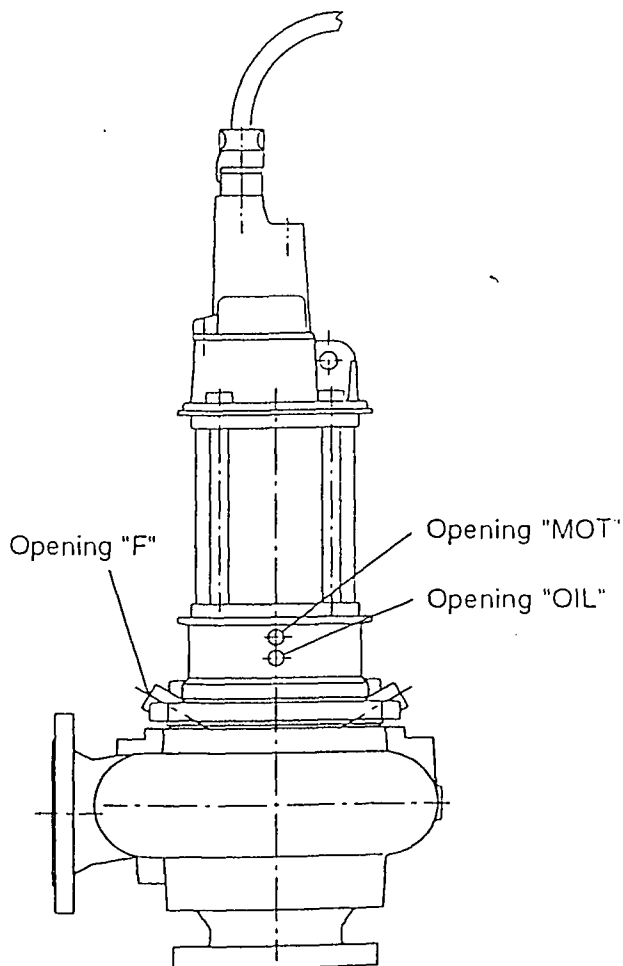

Fig. 7
KEY FOR SYMBOLS ON FIG. 7,8,9
(Fig. 7)
Stand pump vertically on its suction flange. Remove plug "MOT" (Fig. 7, 8 or 9) with copper washer (536) so that any liquid can run out. Do the following repairs according to what comes out of the motor housings: